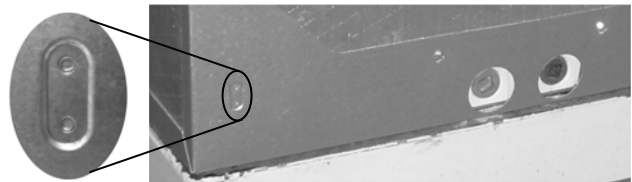

Figure 4 – Locator embossments for secondary pan
- Align secondary drain pan tab holes with locator embossments on bottom of coil (Figure 4); pan should be pitched 1/2" toward drain.